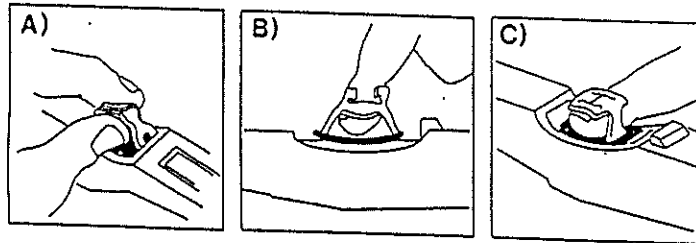

Fig. 2
- c) index finger between rubber loop and pressure pad. (See Fig. 2)